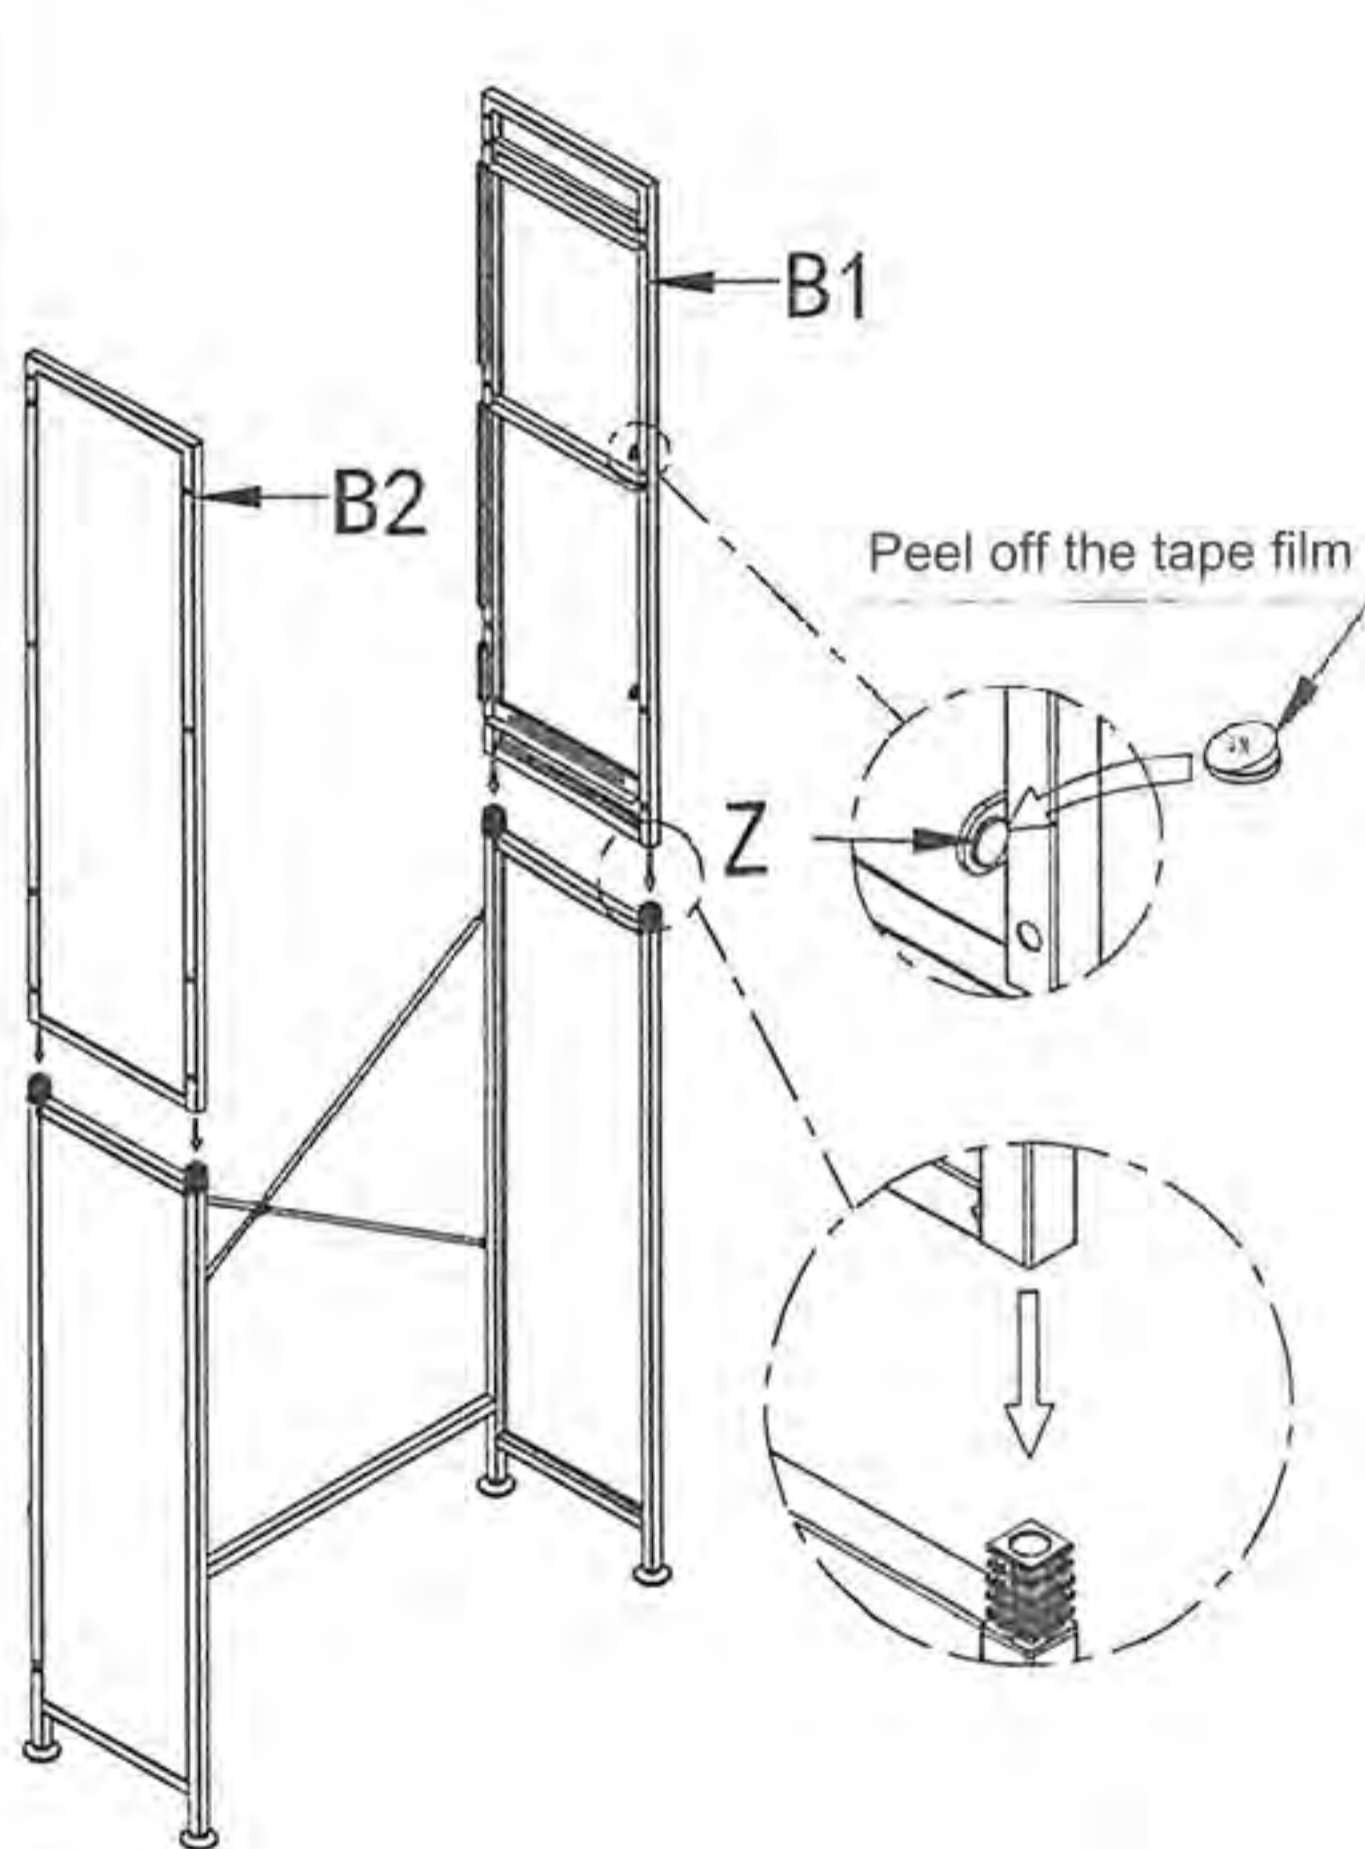
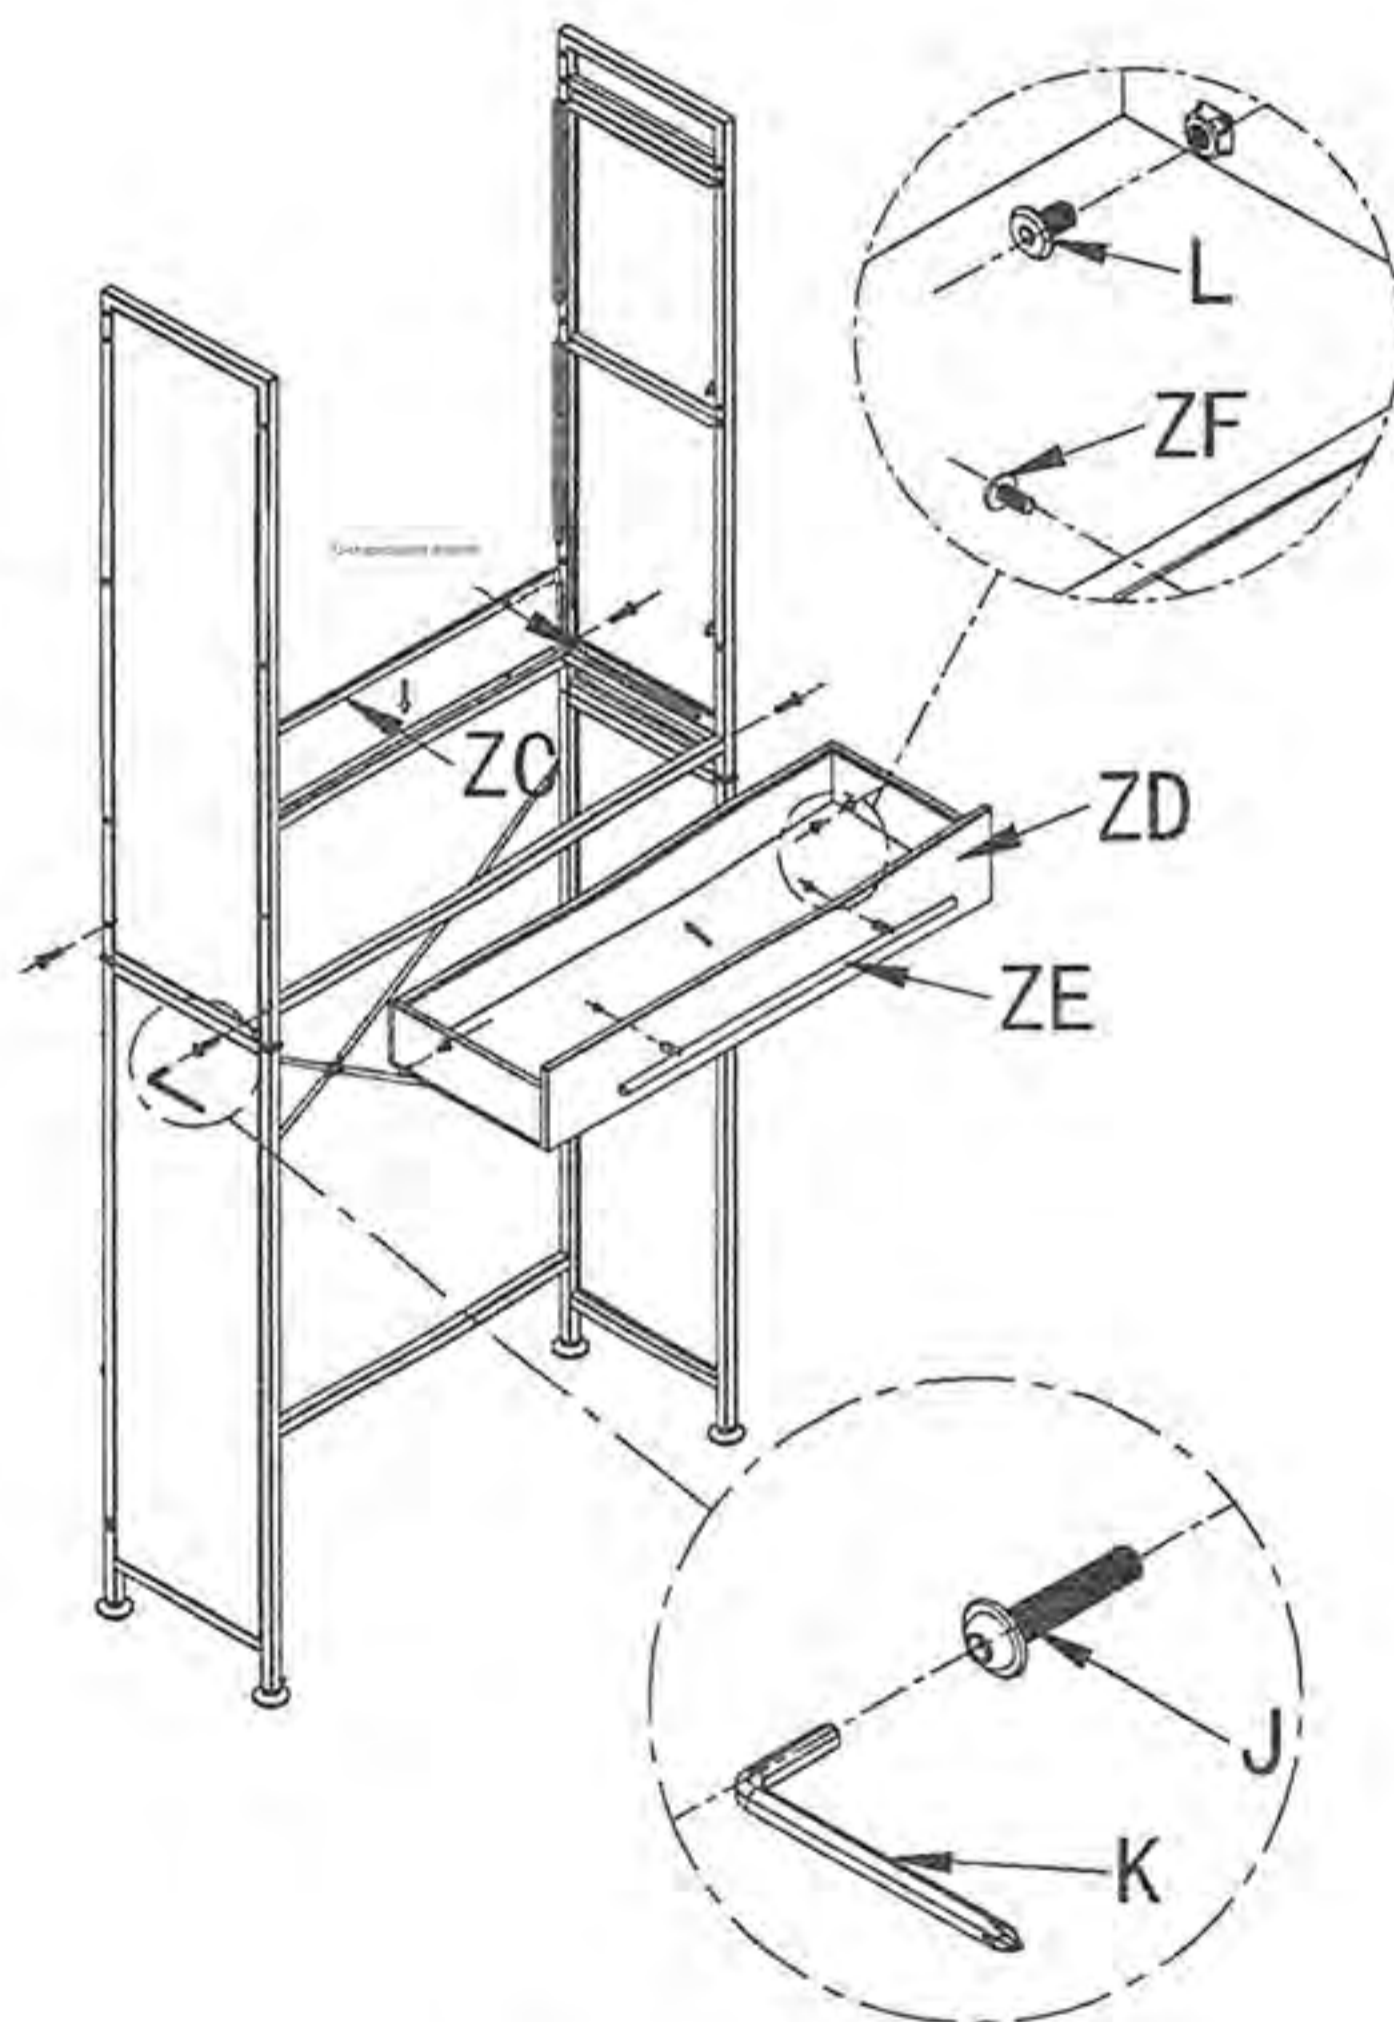

Figure 3
Figure 4
3. First tear off the 3M tape film on the small magnetic piece, and then stick it to the center of the left and right upper side frame blocks respectively, then insert and knock the left and right upper side frames into the left and right lower side frames respectively as shown in Figure 3, use M6*23 disk Use hexagonal head screws to fix the connecting pipe to the left and right upper side frames, then install the small sun panel into the guide groove, then use M4*8 crossround head screws to install the drawer and drawer handle, and then push the drawer into the guide rail and then use M6*12 hexagonal flat head bevel screws to lock into the U-shaped guide grooves on both sides as shown in Figure 4.